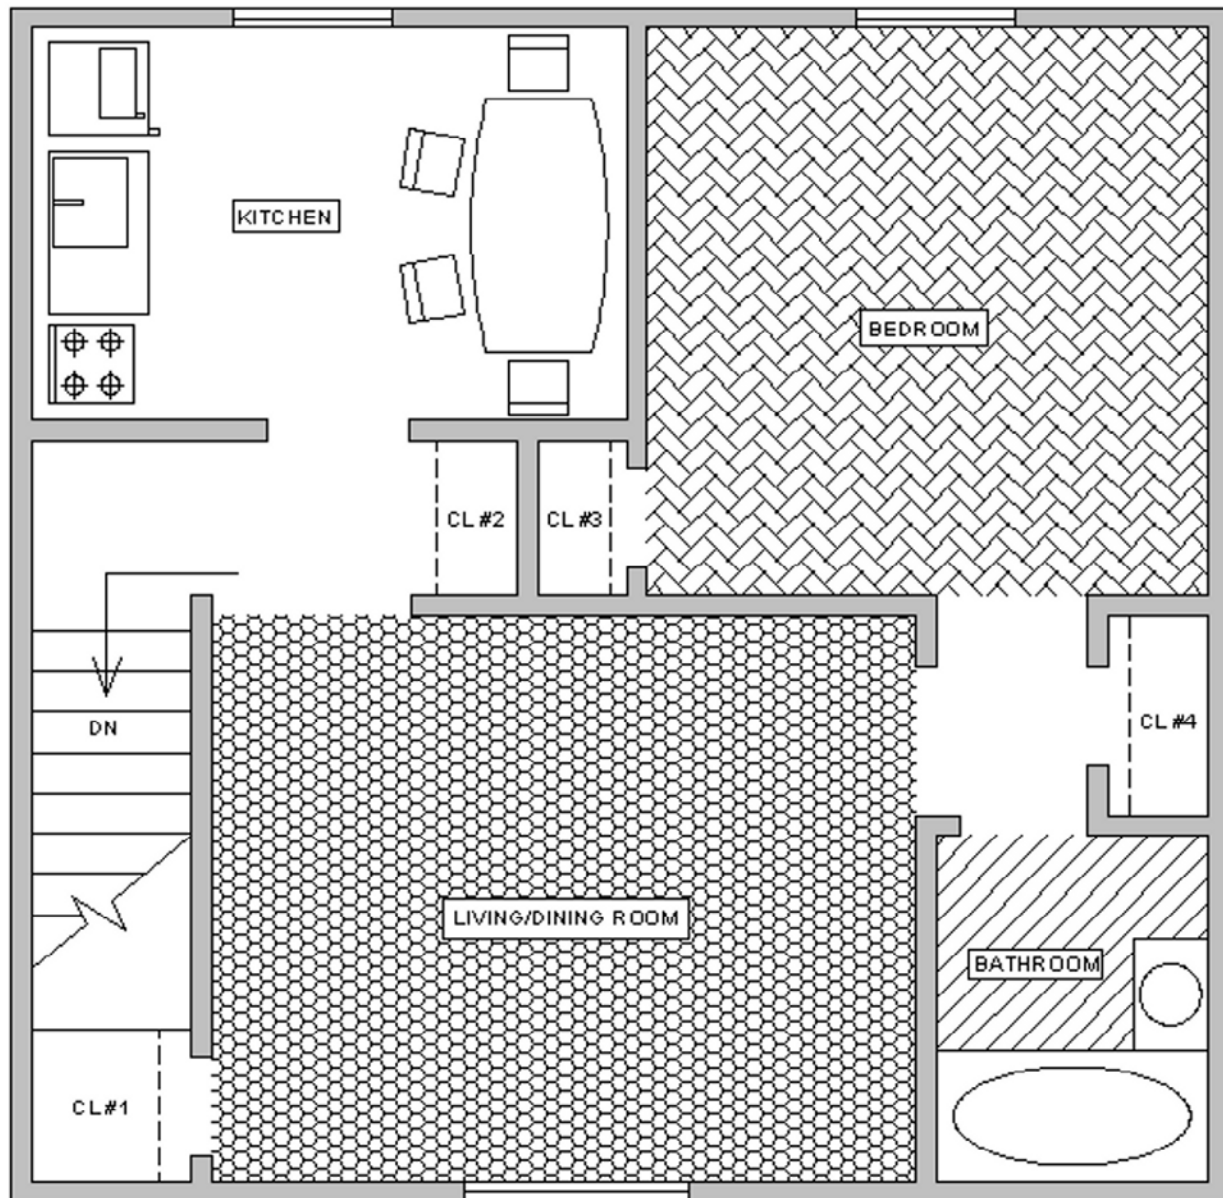

Figure 5.14 – Floor Plan with hatch
To fill in the apartment walls, freeze everything except the A-Walls and the hatch layer. Then use the solid fill, color #9 as described earlier. If you created everything properly, there should not be any gaps or breaks in the wall islands. Check to make sure the windows are drawn correctly, meaning the wall has to have an actual closed gap, into which the window is inserted. Here's what everything should look like *prior to wall hatching (1) and right after (2)*. The apartment is shown in Figure 5.14 on the next page.